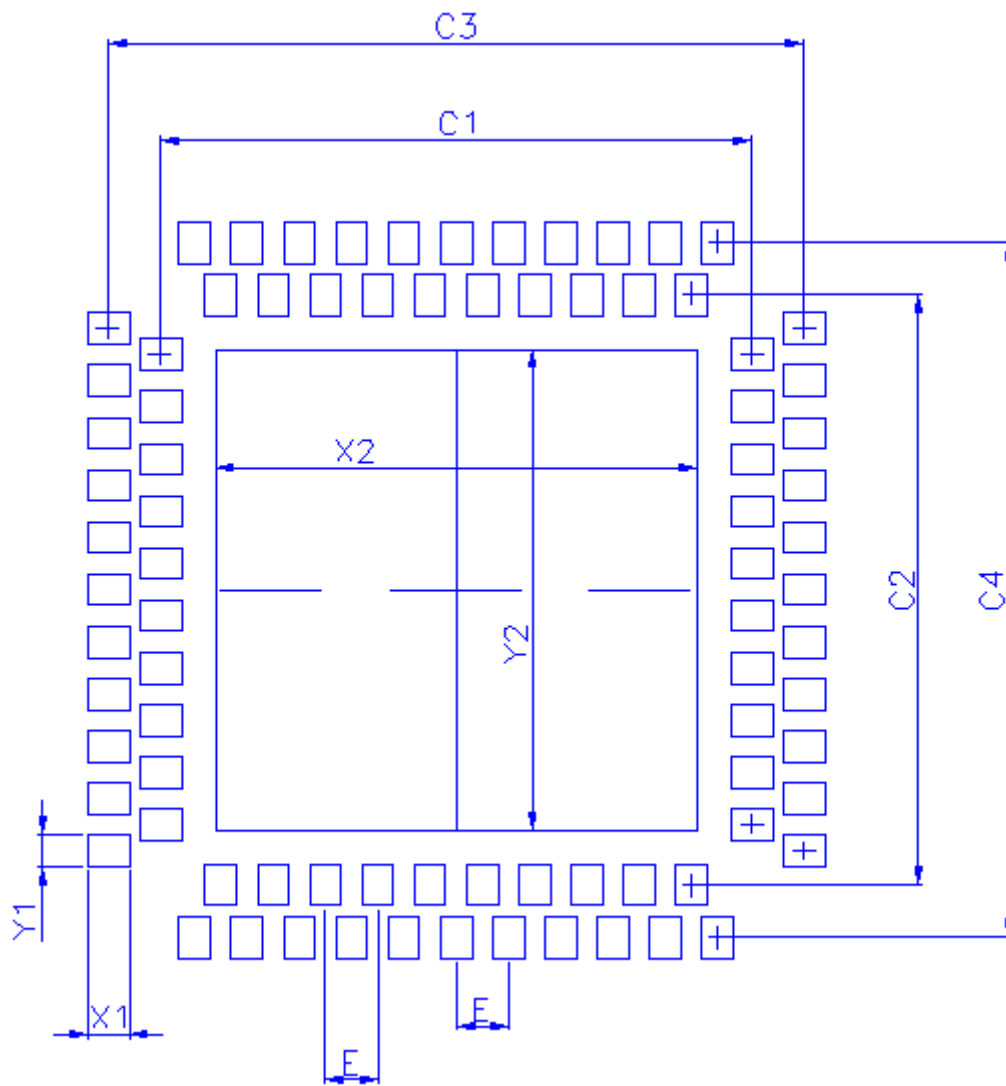

Figure 9.2. PCB Landing Pattern - DR-QFN
- Figure 9.2 PCB Landing Pattern - DR-QFN on page 164: Corrected dimensions C1, C2, C3, C4